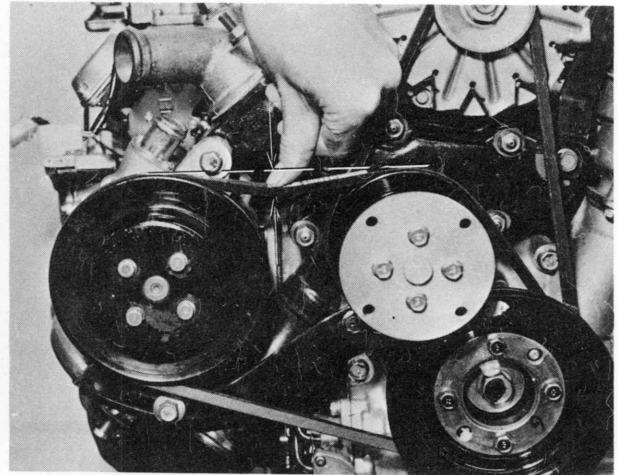

Fig. 1-95 Adjusting air pump belt
5. To adjust the "V" belt tension, push the "V" belt with about 10 kg (22 lb) as shown in Fig. 1-95. The belt deflection should be $10 \pm 1 \text{ mm}$ ($0.40 \pm 0.04 \text{ in}$).